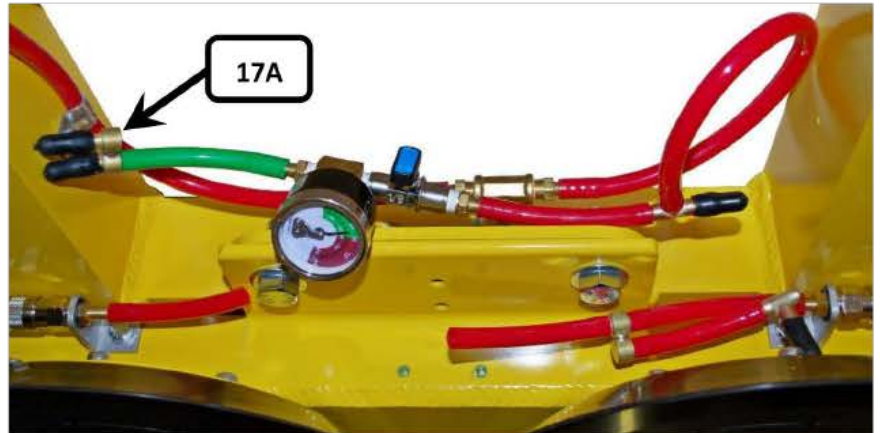

FIGURE 17
44) To further inspect the individual fittings begin with the Y-fitting, **17A**, shown in **FIGURE 17**.
Attach the valve end of the ball valve to the hose connected to the pad arm hose tee. Attach an additional piece of hose to the end of the ball valve with the vacuum gauge. Attach the Y-fitting (or pad tee fitting) to this hose and cap off any open ports. See **FIGURE 17**.